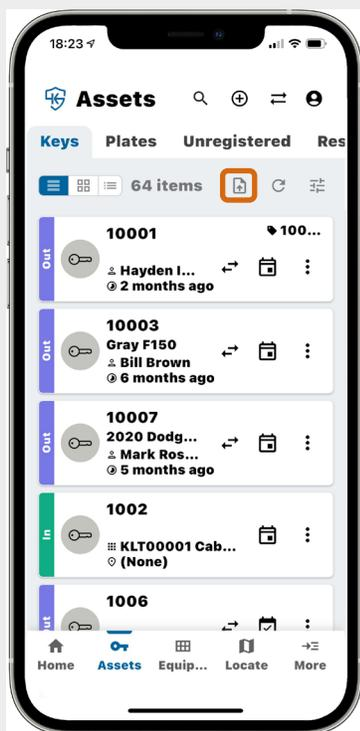
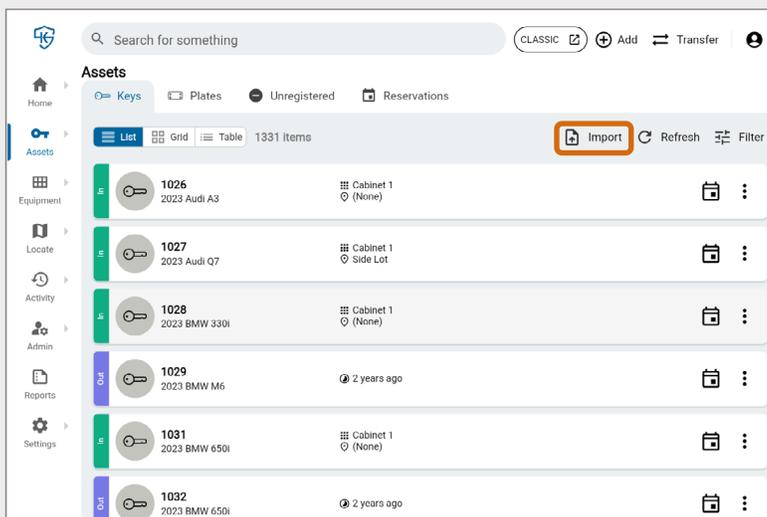

Fig. 73 – Assets screen with Import button indicated (KEYper GO)
Fig. 74 – Assets screen with Import button indicated (KEYper GO Web)
3. On the **Assets** screen, select **Import**  , shown in Fig. 73 and Fig. 74.